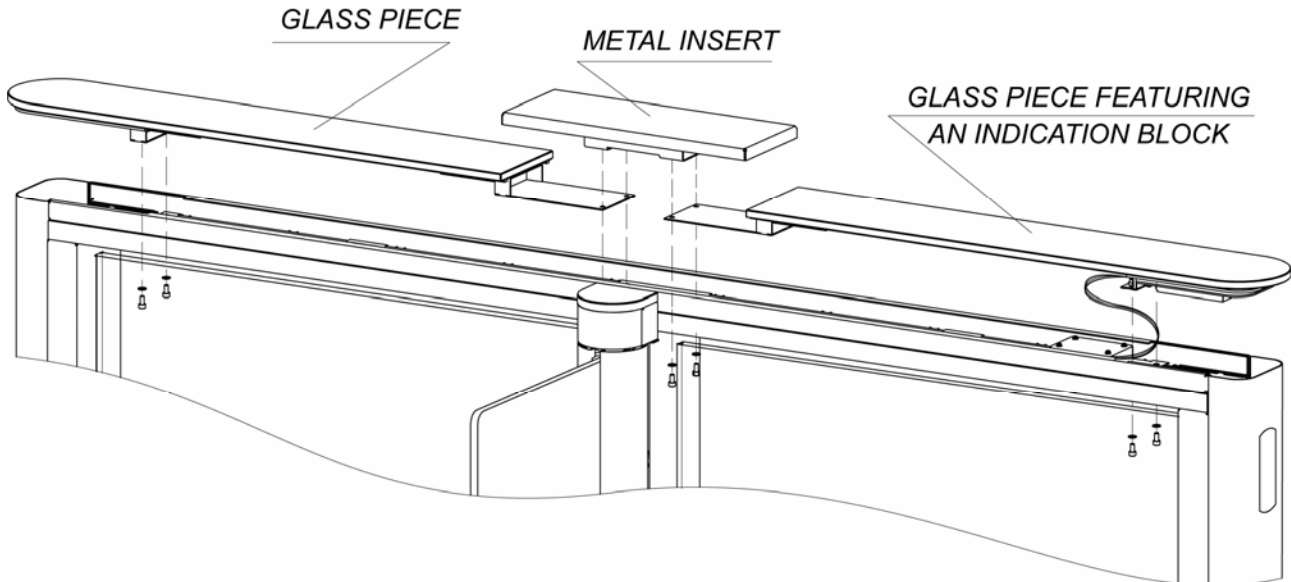

**Figure 23. Installation of the *STC-01G (SDC-01G)* section top cover**
3. Install the indication block on the surface, located above the rotating support of swing panel and using an SW4 Allen wrench fix it on the post top duct (12), using two M5×12 screws with washers from the delivery set.
Remove the central post indication block in a reverse order. Disassemble the section top cover (10) and two shielding plates prior to removal (Sect. 8.9.6, Fig. 22, Fig. 23).
Installation order of the **STC-01G (SDC-01G)** and **STC-01S (SDC-01S)** section top covers (see Fig. 23):